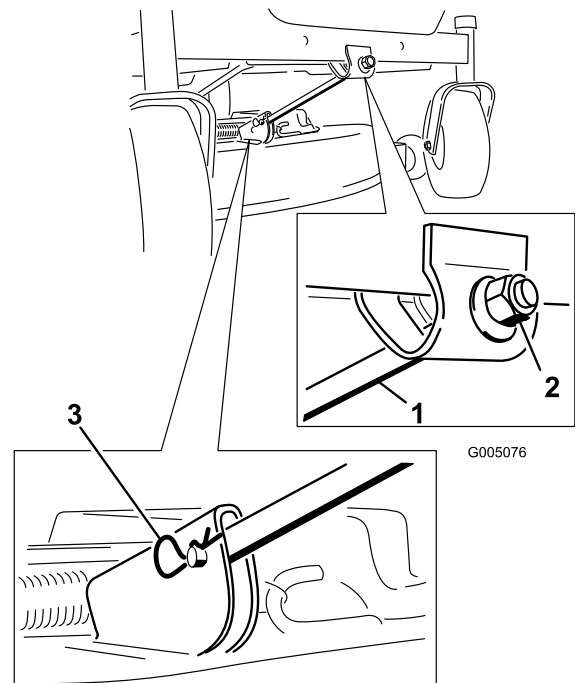

Figure 53
4. Remove the hairpin cotter and clevis pin from the front support rod (Figure 53). Carefully lower the front of the mower deck to the ground.
6. Attach the front support rod to the mower deck with the clevis pin and hairpin cotter (Figure 53).